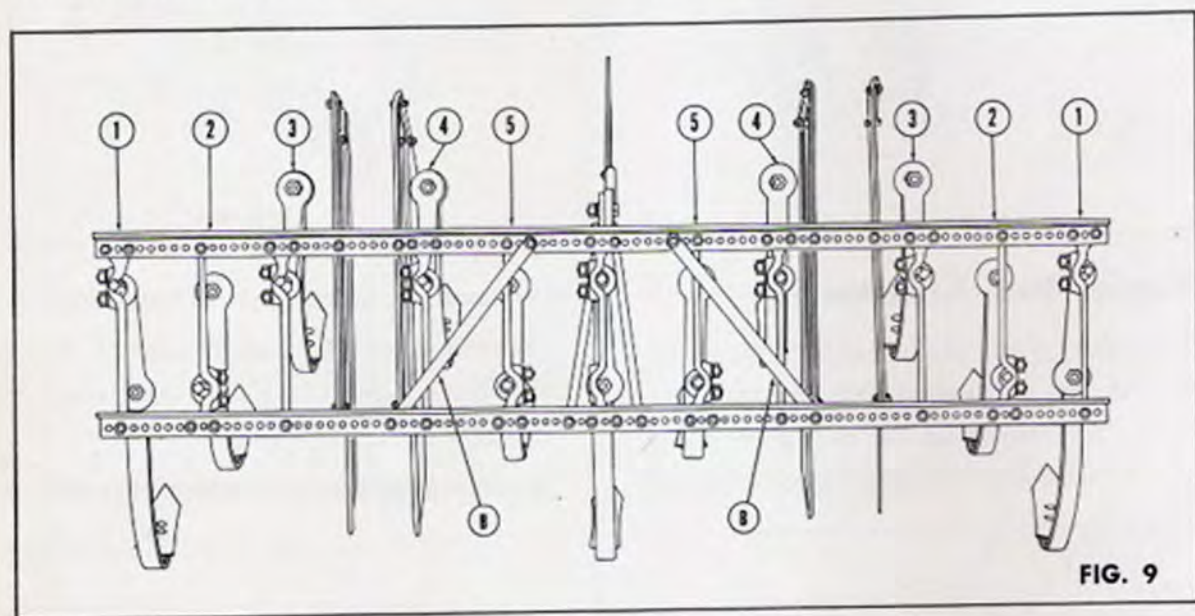

FIG. 9
NOTE: For convenience of the reader, each illustration carries the same number as the page on which it appears. For example, Fig. 9 will appear on Page 9. Where two or more illustrations appear on the same page, a suffix is added to the illustration number for reference purposes.
Adjust all shovels and tines to conform to the row spacing. They may be adjusted for two rows spaced from 36" to 42", four rows spaced from 16" to 20", two rows and three middles spaced 24" to 30", and for seven feet general field cultivation. Figs. 9 through 13 will illustrate the tine and shovel arrangement.
Figs. 2 and 3 illustrate the four positions of the spring tine and shovel to obtain the arrangements for different conditions as shown in Figs. 9 through 13.
The Ferguson SKO-20 Cultivator may be adjusted for a wide variety of uses by changing the position of the stem seats on the frame which has holes spaced 1" apart. The stem crank should not be used except for close adjustment. The diagonal struts (B), Fig. 9, must be securely tightened to
The proper shovel arrangement is obtained by setting the stem seats (shank holders) in the position shown by Figs. 9 through 13 and the accompanying charts. Additional adjustment is provided by turning the stem crank and resetting the tine at the clamp, Fig. 3.